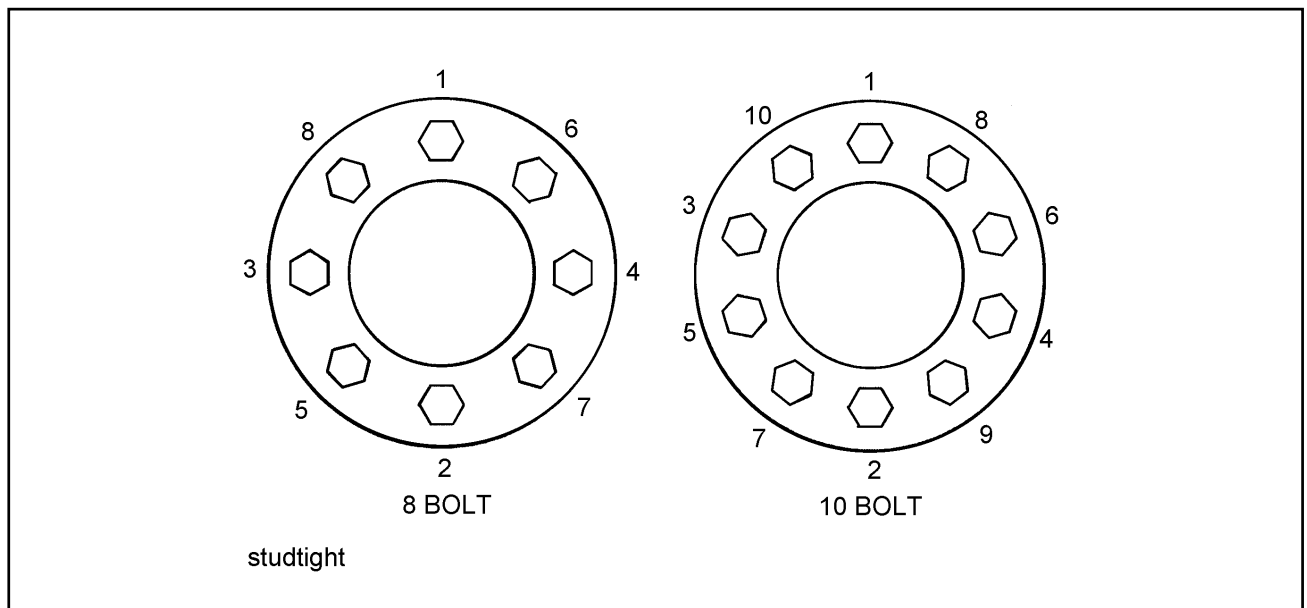

Figure 4-13 Stud Tightening Sequence
- d. Install the flange nut and tighten to 50 foot-pounds using the sequence in **Figure 4-13**. Then tighten to full torque of 500 to 550 foot-pounds.